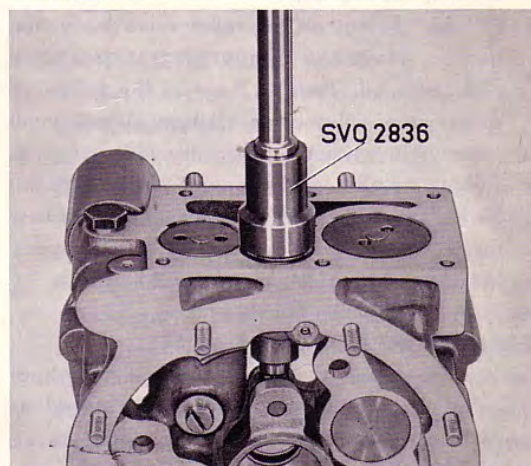

Fig. 18. Removing the dashpot plug
2. Release the dashpot plug under the relief valve with tool SVO 2836, see Fig. 18. Pull out the